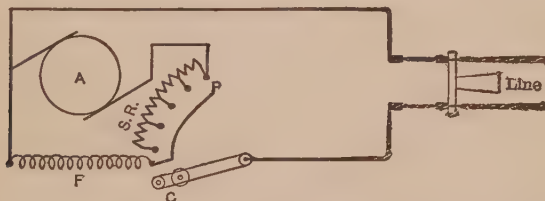

FIG. 141. Diagram of starting resistance for shunt motor.
Fig. 141 is a simple diagram of the starting resistance used with a shunt motor. When the line switch is thrown and *C* is swung to the first point, it merely puts the shunt field
**Prob. 9.** In Fig. 141 the starting resistance  $SR$  is 4.7 ohms; the armature has 0.8 ohm. What current does the armature take when starting on 112 volts?
**Prob. 10.** The field coils  $F$ , Fig. 141, have a resistance of 200 ohms. What current do the field coils take when on 112 volts?